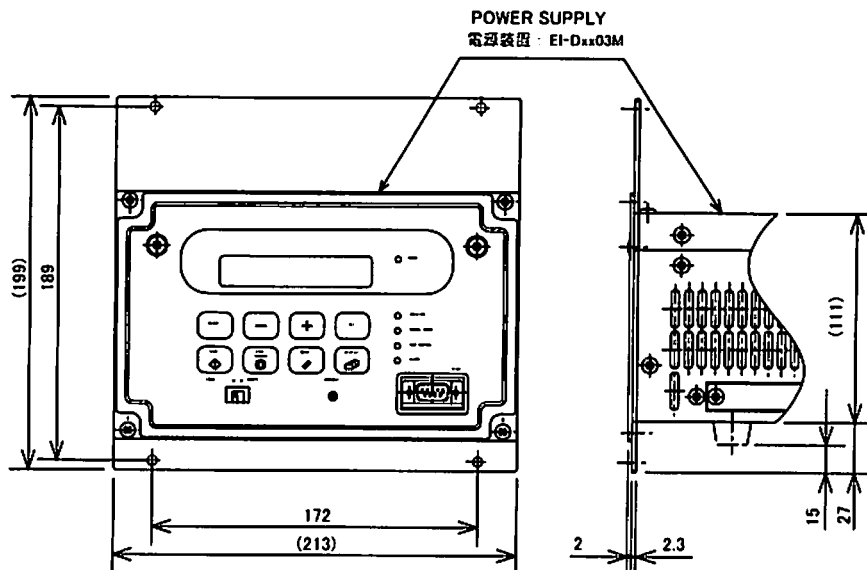
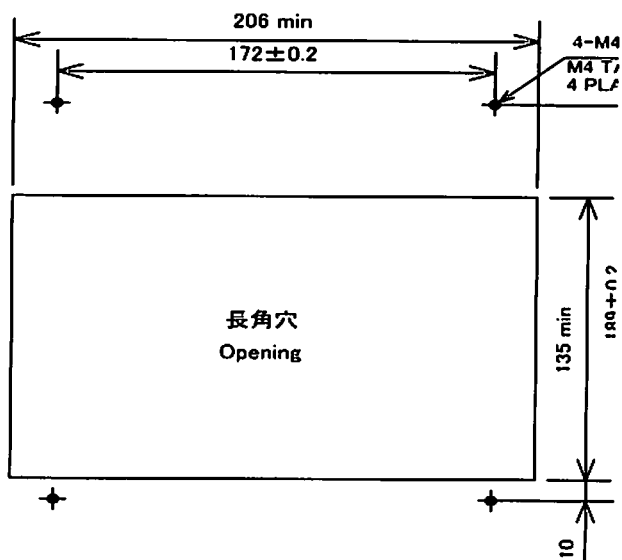

Fig.5-7 Dimensions of the Power Supply Unit with Rack Mounting Panel
Fig.5-8 Panelcut Dimensions
- (1) Turn the power supply unit over and remove the four rubber pads.
- (2) Attach the rack mounting panel to the power supply unit with four Panel Attachment Screws. (See Fig. 5-7)
- (3) Reattach the rubber pads of the power supply unit if they are necessary.
- (4) Fix to the rack using 4 M4 tap screws. (See Fig. 5-7, Fig. 5-8)